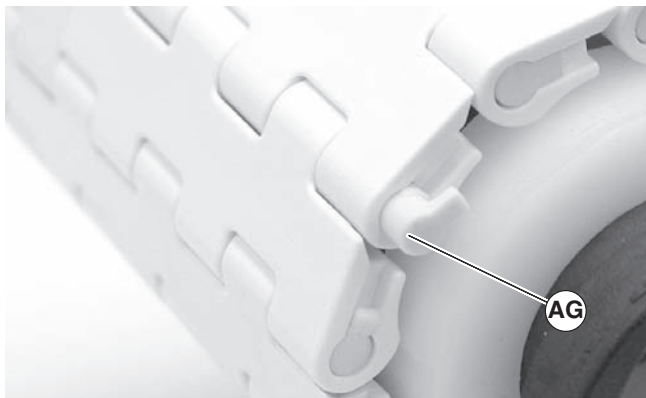

Figure 28
5. Insert rod retaining end caps (Figure 28, item AG) on both sides of belt.